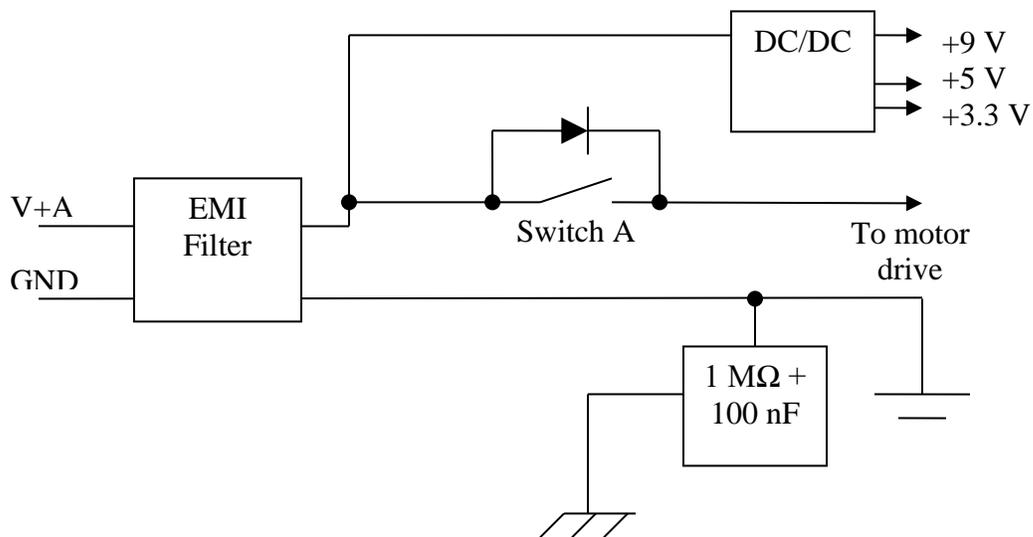

Figure 6: RW3-0.06 Rev 8 and Earlier Power Architecture
- For curves with a LISN, the LISN from Figure 6 of MIL-STD-461F is assumed.